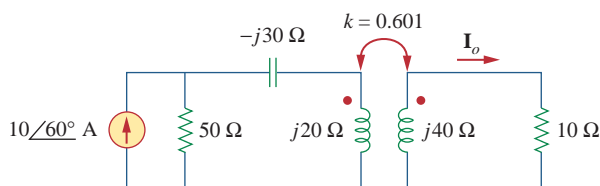

Figure 13.95
13.26 Find \mathbf{I}_o in the circuit of Fig. 13.95. Switch the dot on the winding on the right and calculate \mathbf{I}_o again.